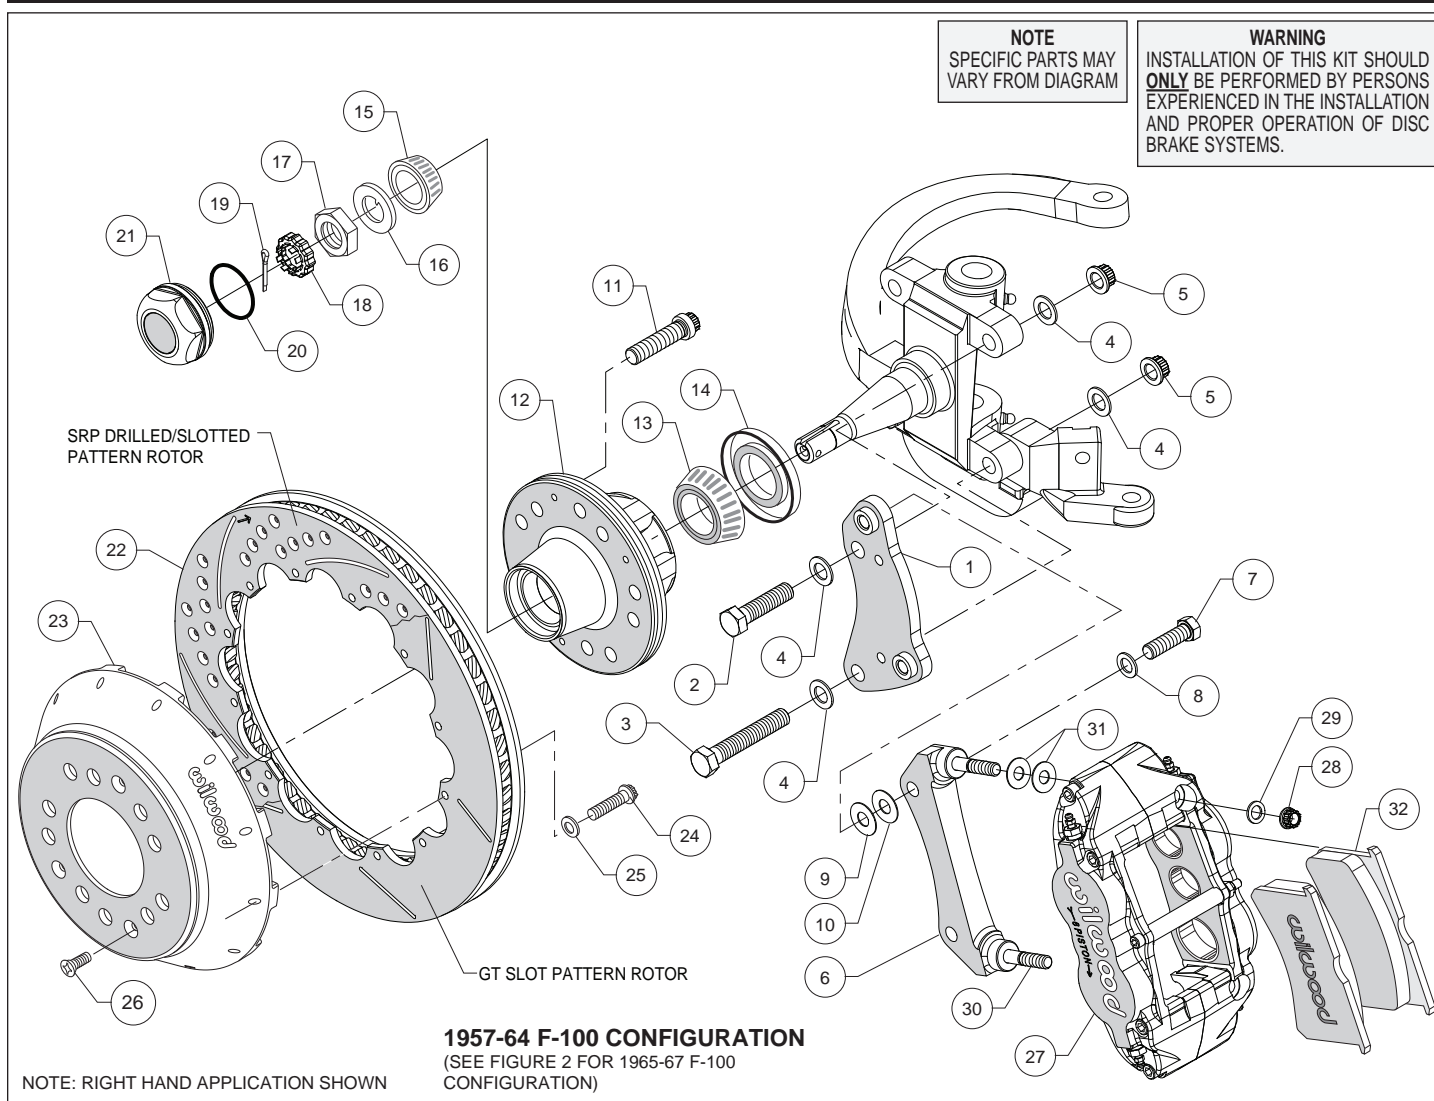
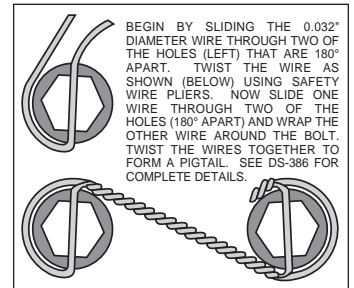
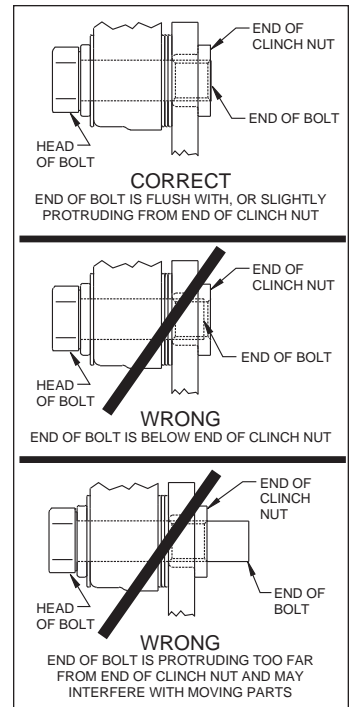

Figure 1. Typical Installation Configuration, Model Years 1957-1964
Figure 4. Safety Wire Diagram
Figure 5. Clinch Nut Engagement Diagram
Assembly Instructions (numbers in parenthesis refer to the parts list, on the preceding page and Figures 1 and 2). **CAUTION:** All mounting bolts must fully engage clinch nuts. Be sure to check that all bolts are either flush or protruding through flanged side of clinch nut after shimming, Figure 5.
- Orient the spindle bracket (1) as shown in Figure 1 or 2, and Photo 1, and install using bolts (2 and 3), washers (4) and nuts (5). Temporarily tighten the mounting bolts. Ensure that the flanged heads of the clinch nuts in the bracket are facing outboard, Photo 1. **NOTE:** The bracket must fit squarely against the mount bosses on the upright. Inspect for interference from casting irregularities, machining ridges, burrs, etc. Torque lock nuts (5) to 65 ft-lb.
- The caliper mount radial bracket (6) should initially be installed with clean, dry threads on the mounting bolts. Orient the bracket as shown in Figure 1 or 2, and Photo 2. Install onto the spindle bracket using bolts (7), and washers (8). Initially place one .030 thick shims (9) on each bolt between the radial and spindle brackets, Figure 1 or 2. Temporarily tighten the mounting bolts. Later, after the caliper alignment has been checked, the mount bolts will be secured using red *Loctite*® 271.
- Screw dust cap (21) into hub (12), Photo 8. Friction created by the o-ring (20) on the dust cap keeps it from unscrewing. **NOTE:** The O.D. of the existing OEM spindle washer may be larger than the I.D. of the dust cap not allowing it to seat against the hub face. Therefore, use the spindle washer (16) supplied with the kit instead of the OEM washer.
- Orient the rotor (22) and the hat (23) as shown in Figure 1 or 2 and Photo 9. Attach rotor to hat using bolts (24) and washers (25). Using an alternating sequence, apply red *Loctite*® 271 to the threads, and torque to 155 in-lbs. For an added measure of security, the bolts may be safety wired using standard 0.032 inch diameter stainless steel safety wire as shown in Figure 4. Refer to Wilwood's data sheet DS-386 (available at www.wilwood.com/Pdf/DataSheets/ds386.pdf) for complete safety wire installation instructions.
- **NOTE:** This kit contains distinct right and left hand calipers that must be mounted in a specific direction, as described below. Lubricate the caliper mounting studs (30) with lightweight oil. Initially place two .035" thick shims (31) on each stud between the caliper and the bracket, as shown in Figure 1 or 2, and Photo 11. Mount the caliper (27) onto the bracket (6) using lock nuts (28) and washers (29), Figure 1 or 2. Ensure that the caliper is mounted so the largest pistons are at the rotor exit end of the caliper, in relation to the direction of rotor rotation. Temporarily tighten the lock nuts and view the rotor through the top opening of the caliper. The rotor should be centered in the caliper, Photo 12. If not, adjust by adding or subtracting shims (9 and/or 10)